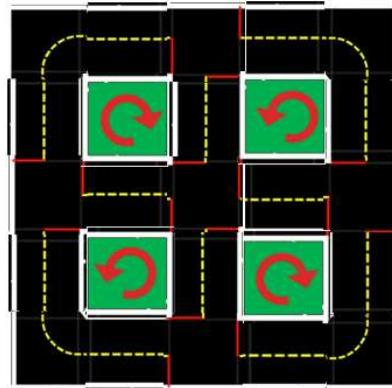

Figure 19.3. The Demo Map
Dream scenario intersection coordination: Duckiebots loop through the map as indicated in Figure 19.3. At the intersections the Duckiebots coordinate implicitly. Demo can run indefinitely without collision. Tunable: density of the traffic (fleet size) and the speed.
- The tiles to build the map in Figure 19.3